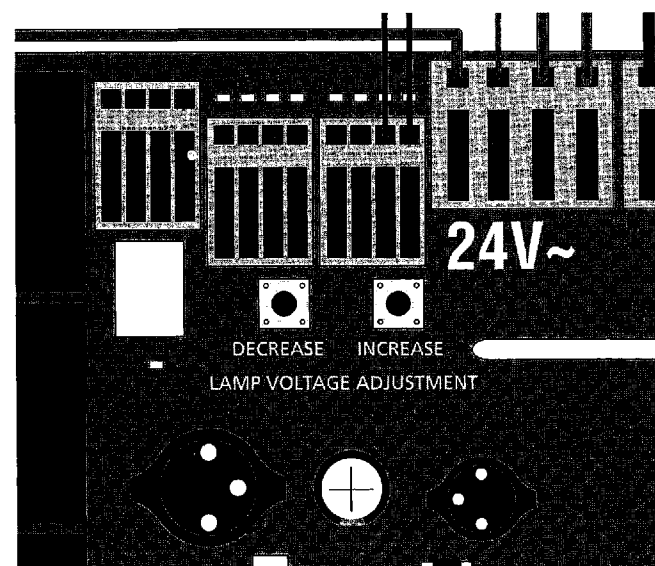

Figure 86. Adjusting lamp voltage.
4. Connect the black and gray power wires to the circuit board as shown in Figure 86 (black ØVAC, gray 24 VAC).
5. Adjust the voltage by pressing **Increase** and **Decrease** on the circuit board (see Figure 86).